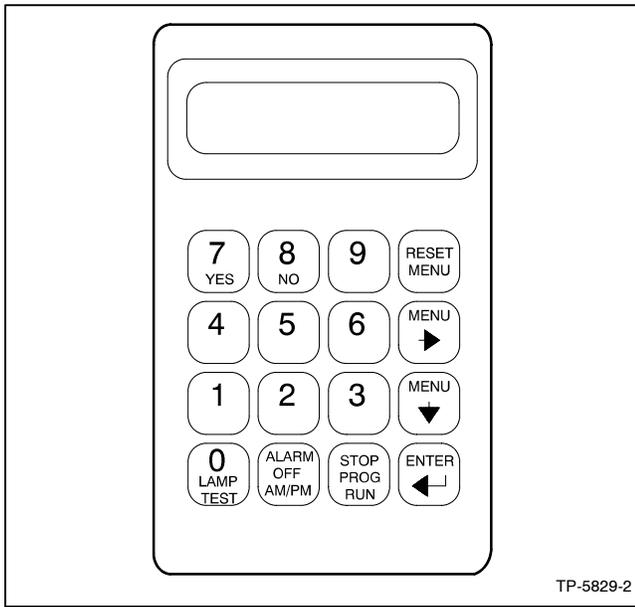

Figure 2 Controller Keypad
1.1 Press the RESET MENU key on the controller keypad. See Figure 2.